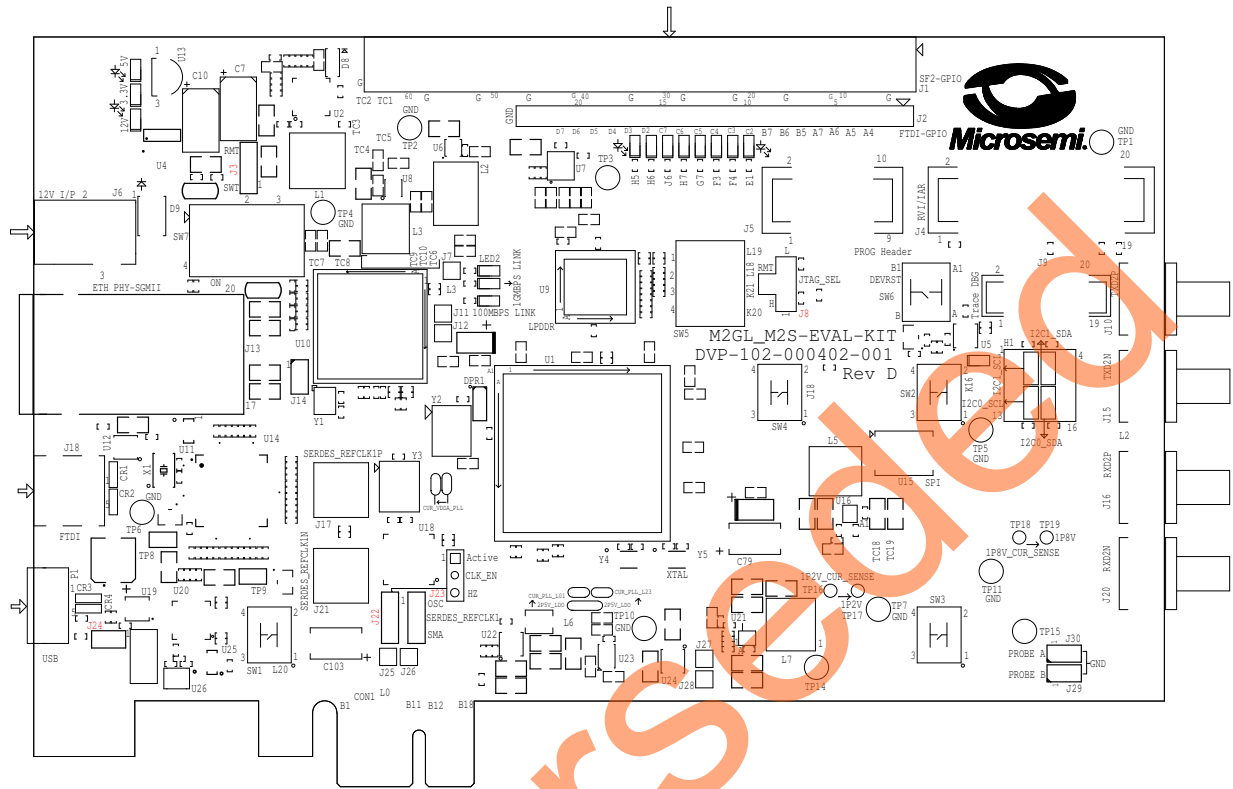

Figure 16 • SmartFusion2 Security Evaluation Kit Silkscreen Top View
Figure 16 shows the jumper locations in SmartFusion2 Security Evaluation Kit board.
- The location of the jumpers in Figure 16 are searchable.